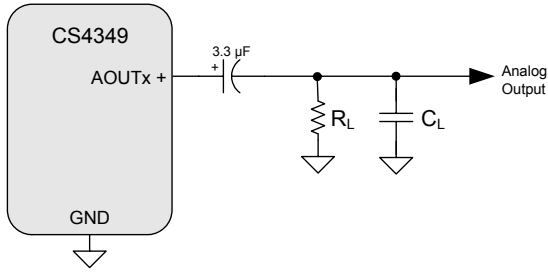
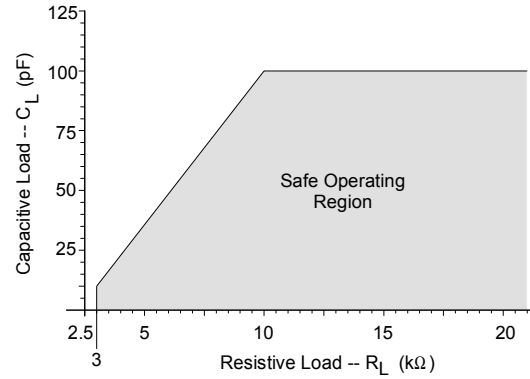

Figure 1. Output Test Load
Figure 2. Maximum Loading
4. R_L and C_L represent the minimum resistance and maximum capacitance required for the CS4349's internal op-amp to remain stable. See Figure 1 and Figure 2 for more details.